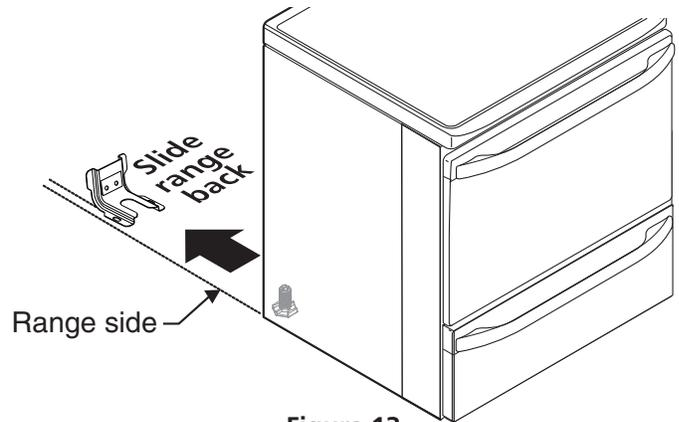

Figure 13
2. Place a level on the rack. Take 2 readings with the level placed diagonally in one direction and then the other. Level the range, if necessary, by adjusting the 4 leg levelers with a wrench (see Figure13).